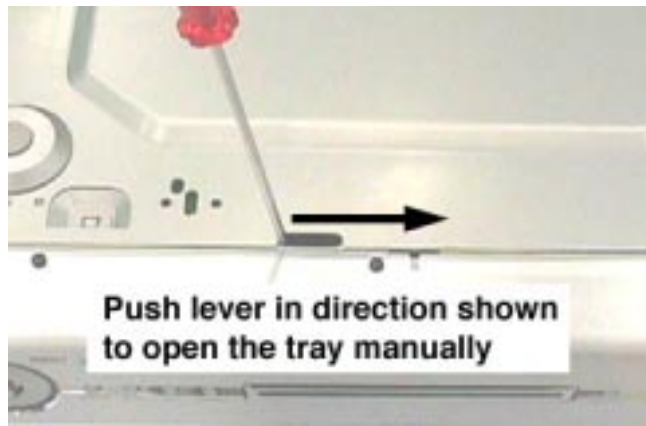

Figure 1
- 1) The tray can be manually open by inserting a screw driver and push the lever in the direction as shown in Figure 1 to unlock the tray before sliding it out.